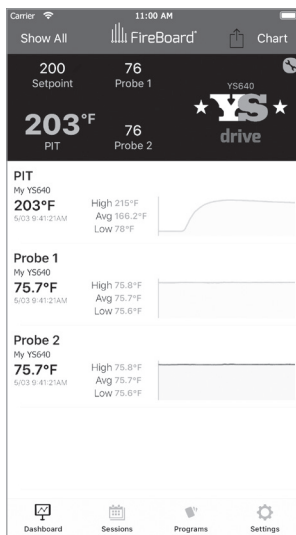

FIG 34
- You can choose between two visualizations of the running temperature data: a basic chart, and a detailed chart. You can toggle between the two by tapping on the word “Chart” or “Detail,” respectively, in the title bar area of the app (FIG 34, 35).